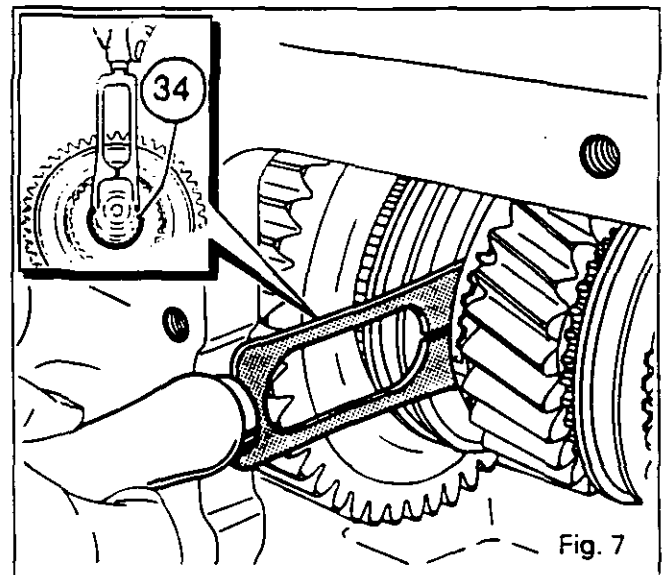

Fig. 7
12. Remove the locking ring (46).
13. Remove the bearing cup (48).
14. Remove the circlip (45).
15. Remove the packing shim (43) and the adjusting shims (42).
16. Remove the bearing cone (40).
**Note: If shimming was required between the cones, remove the shim or shims (47).**
17. Remove the cone (39).
18. Remove the adjusting shims (38).
19. Pull the shaft (44) towards the rear.
20. Remove the snap ring (34) using tool MF 460 and discard it (see Fig. 7).
22. Through the opening in the selector cover, take out the synchromesh (31), the synchromesh rings (33) and (74), the gear (29) with cones (75) and (76), the ring (25), the two thrust washers (27) and (32) and the Tortoise gear (36).
**Note: Keep the synchromesh rings (25) and (74) paired with the cones (75) and (76), and ring (33) with cone (73).**
23. Remove the cap (37) and circlip (49).
24. Remove circlip (19), washer (22) and the needle-roller bearing (24).